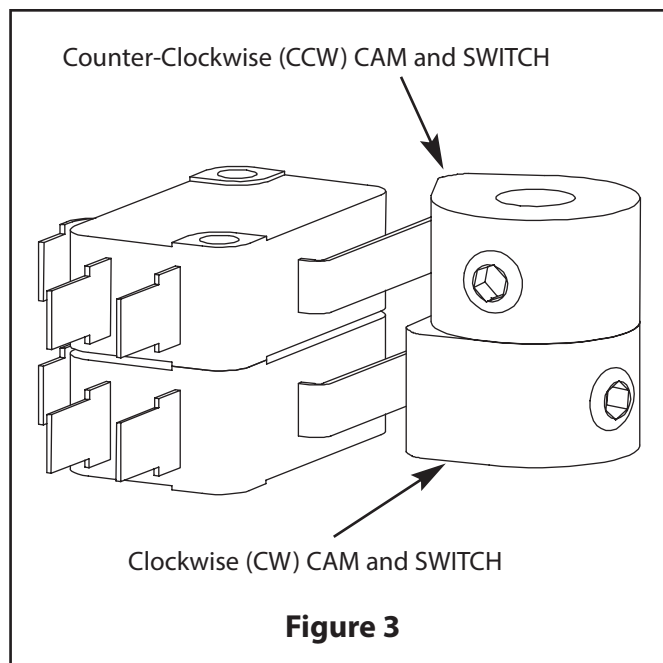

Figure 3
1. Loosen the set screw in the cam using a 1/16" hex wrench. The bottom cam controls the clockwise end-of-travel, and the second cam, (from the bottom) controls the counter-clockwise end-of-travel (**See Figure 3**).